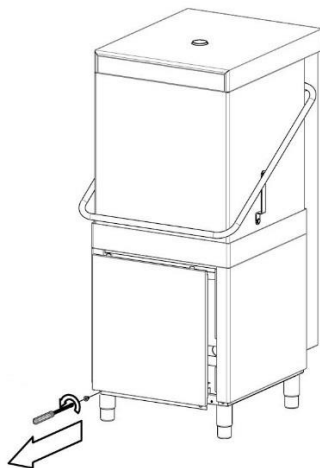

Fig.6
- 1- Remove the front panel by unscrewing the two screws located on the bottom. (Fig.6)
Setting of rinse aid dispenser is performed acting on the screw accessible after removal of front panel, under the tank door. (see Fig.6)